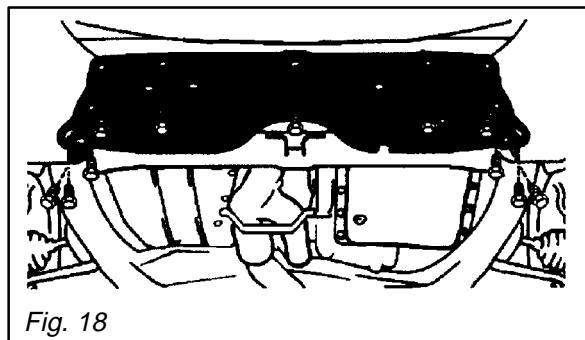

Fig. 18
- K. Shut off the engine and reinstall the center engine under cover with **9** bolts and **2** screws as shown in figure 18.